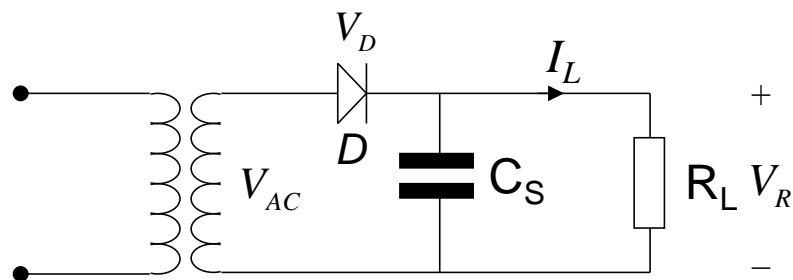

Figure Q2
Q2 For the half-wave diode rectifier circuit shown in Figure Q2, assuming the input voltage at the secondary side of the transformer is $V_{AC} = 10\sin(100\pi t)$, the capacitance C_s is $20000\mu\text{F}$, the load resistance R_L is 10Ω .
- (c) If the output filter capacitor C_s is removed, and the diode D in Figure Q2 is replaced with an SCR (Thyristor) with delay angle $\alpha = 30^\circ$ and assume the SCR is ideal for this question.